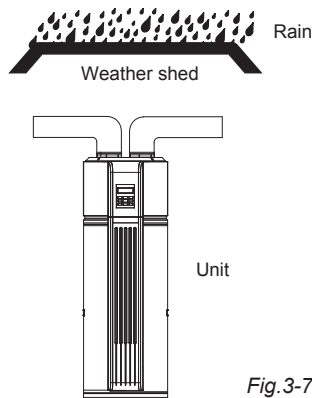

Fig. 3-7
- In terms of the unit connect with duct reaching to outdoor, a reliable water-resistant measure must be conducted on the duct, to prevent water from dropping into internal of the unit. (Fig. 3-7)